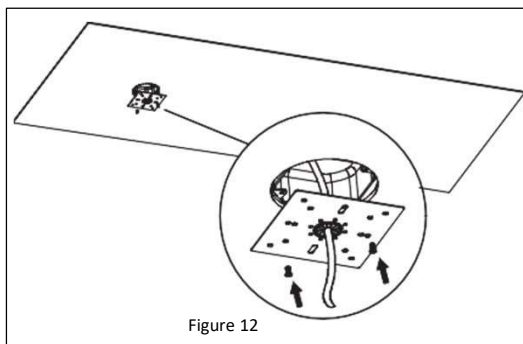

Figure 12
1. Attach the square plate to the junction-box with the supplied screws. **See Figure 12.**